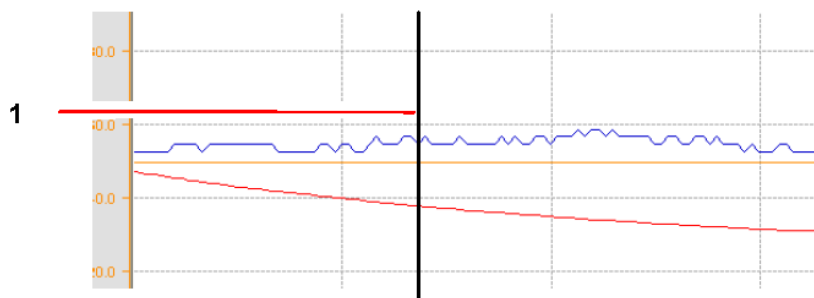

Fig. 55: Selecting a Read Line Location
2. To move the line to a time of your choosing, press the graph at the desired point. You can also press the Read line <<< or >>> button (both are now red and active) to move the line one click at a time for more precision (see Fig. 55 on p. 68):